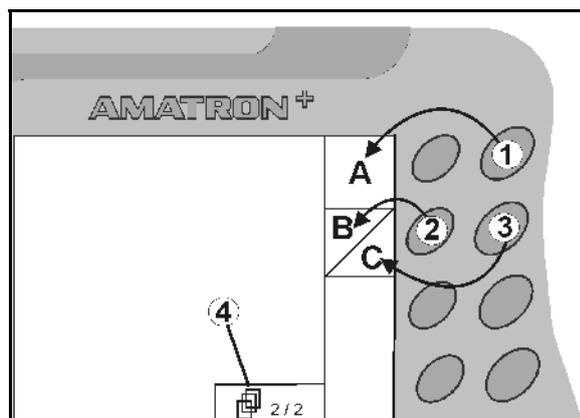

Fig. 7
- If boxes appear on the display, only the right key (Fig. 7/1) is assigned to the function field (Fig. 7/A).
- the left key (Fig. 7/2) is assigned to the top-left function field (Fig. 7/B).
- the right key (Fig. 7/3) is assigned to the lower-right function field (Fig. 7/C).
<ul style="list-style-type: none"> <li>• Scroll to other menu pages (only possible if (Fig. 7/4) appears in display)</li> </ul>